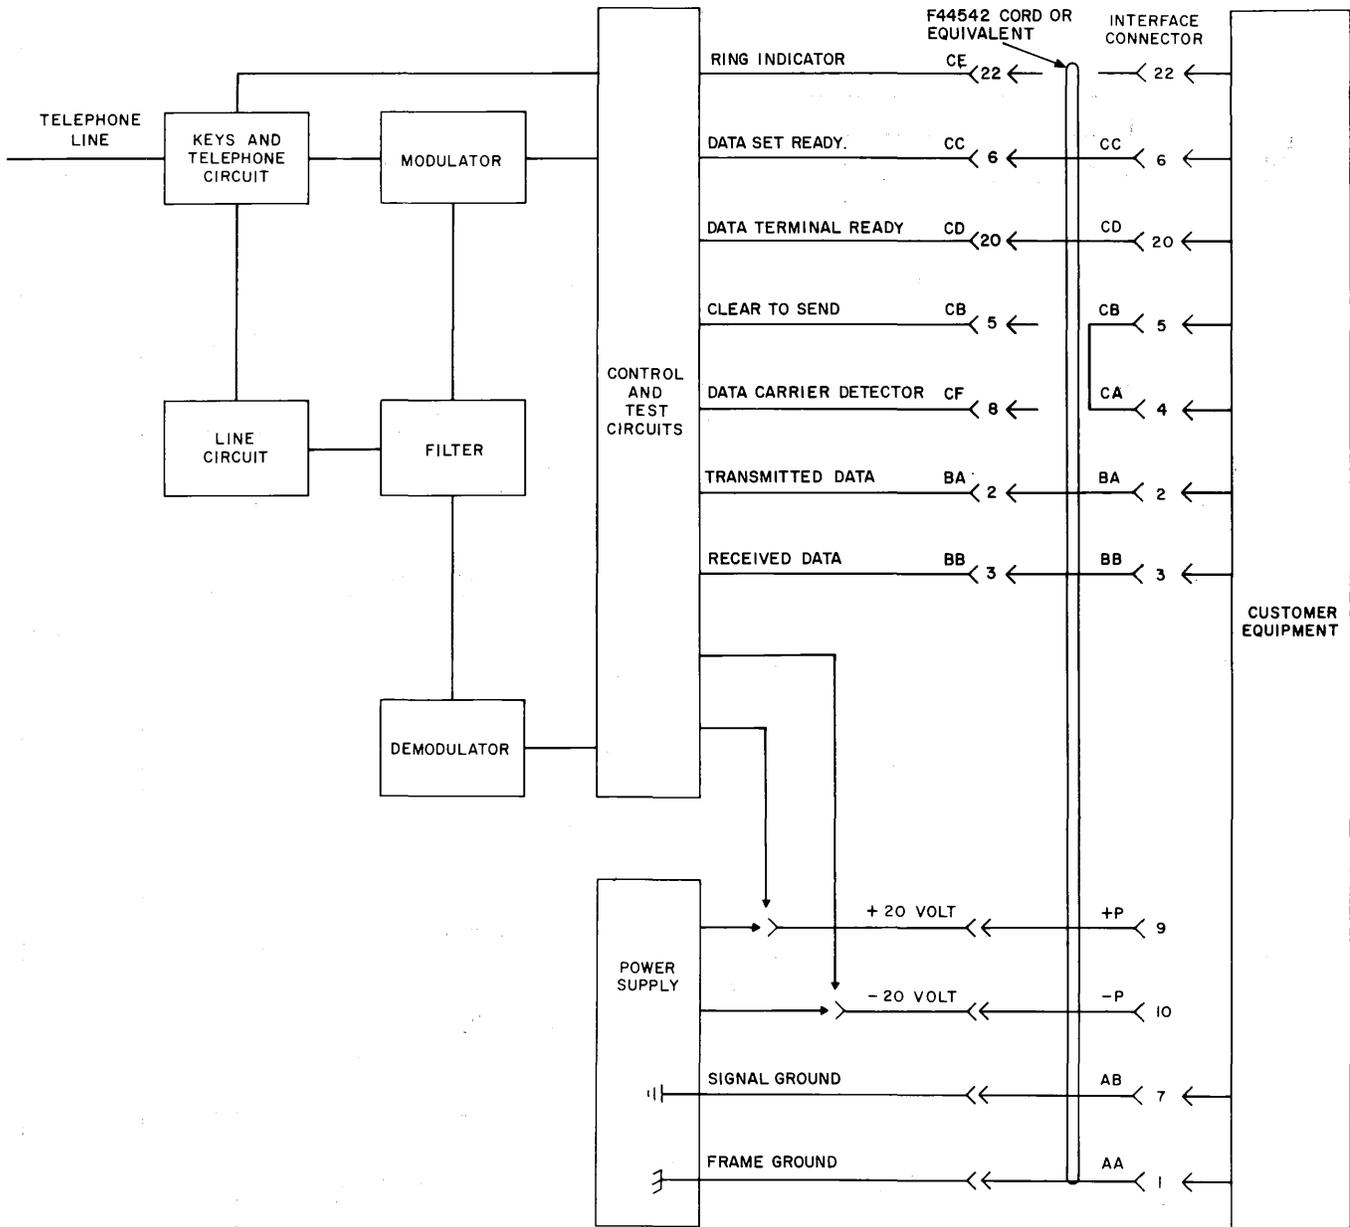

Fig. 6—Modified Data Set 103A2—Block Diagram
2.05 A block diagram of the modified data set 103A2 is shown in Fig. 6. It illustrates the five basic component sections of the data set which are the same as described in 2.03.